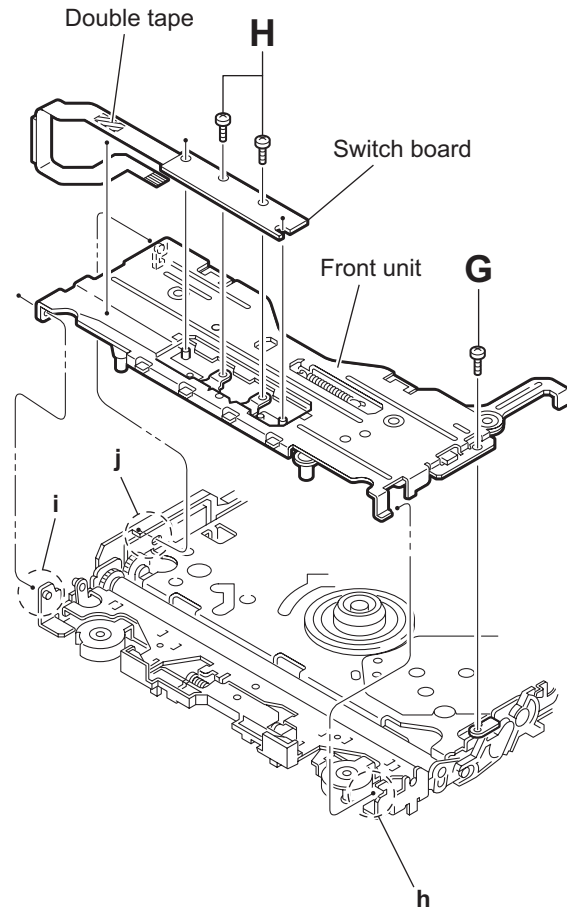

Fig.12
- Remove the two screws **H** attaching the switch board. (See Fig.12.)